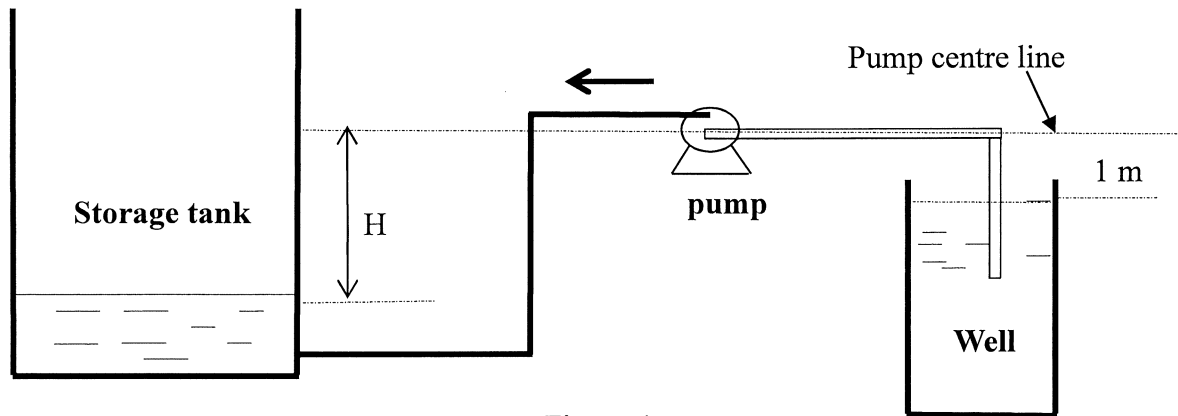

Figure 4
4. A centrifugal pump delivers fresh water from a well to a storage tank as shown in Figure 4. At the start of the operation, the suction level of the well is 1 m below the pump centre line. The pump and system characteristics are given in the Graph.